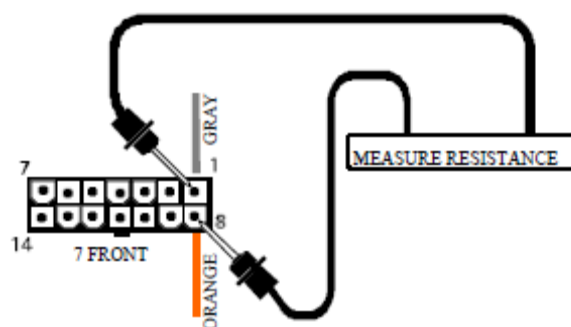
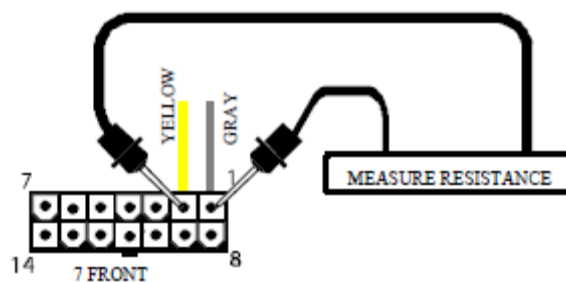

Figure 23. Connector 7
Figure 24. Connector 7
9. Insert the multimeter probes into the main harness connector 7 at pin 1 and pin 8 (gray wire and orange wire). See figure 23. Note the resistance reading. Insert the multimeter probe into the main harness connector at pin 1 and pin 2 (gray wire and yellow wire). See figure 24. Note the resistance reading.